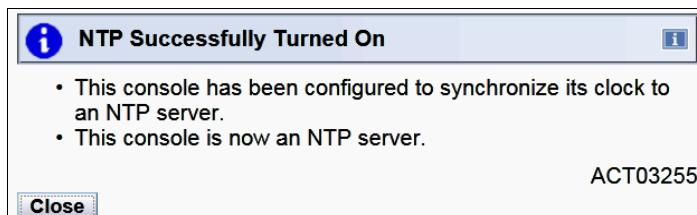

Figure 8-11 Customize Console Date and Time NTP Successfully Turned On
- After processing is completed, **NTP Successfully Turned On** window opens (Figure 8-11). Click **Close**. This is the last step to set HMC as NTP server for STP.